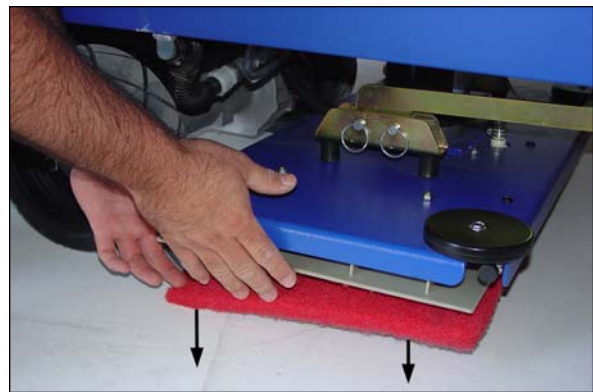

Figure 16
5. Pull downward on the brush or pad until it releases from the flex plates. See figure 16.